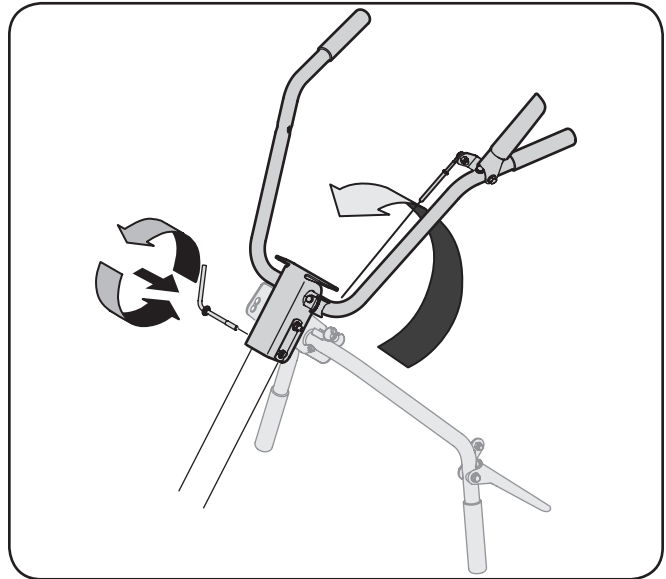

Figure 3-5
3. Remove the handle adjustment crank from the handle. See Figure 3-5.
4. Rotate the handle upward and secure it in place with the handle adjustment crank. See Figure 3-5.